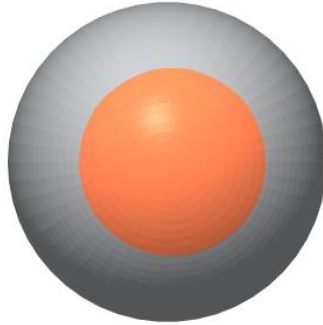

Figure 9.21 No-support zones are shown in orange
2. Click the “Add No-Support” command in the Support Generation menu, the no-support zones are displayed in orange, as shown in Figure 9.21.